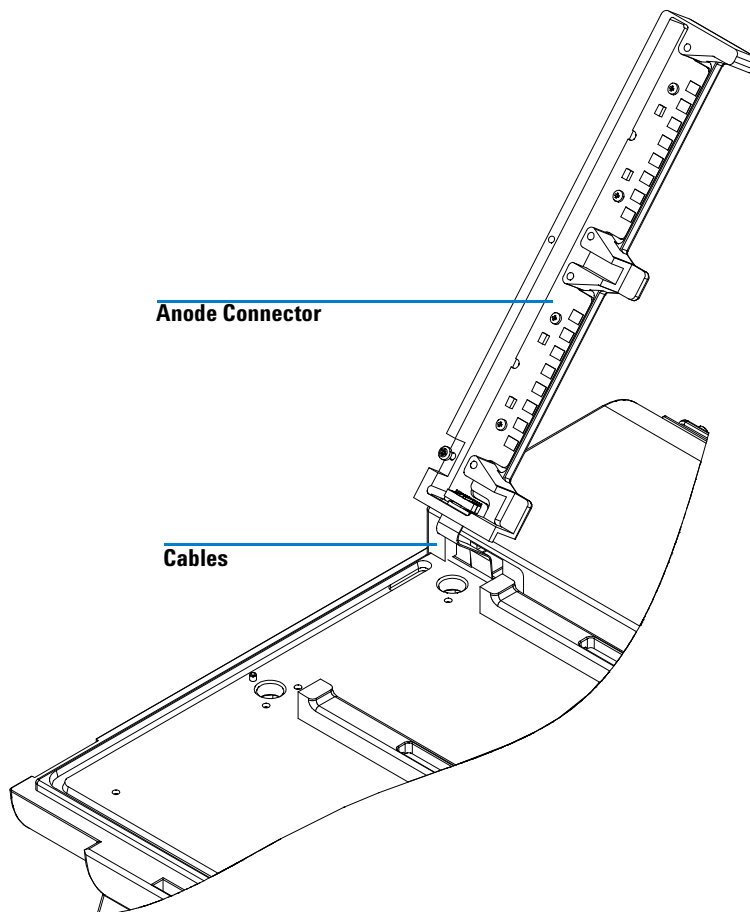

Figure 26 Detached anode connector.
- 2 Carefully lift the anode connector from the front (Figure 26). Take care to not damage the cables at the rear of the anode connector.